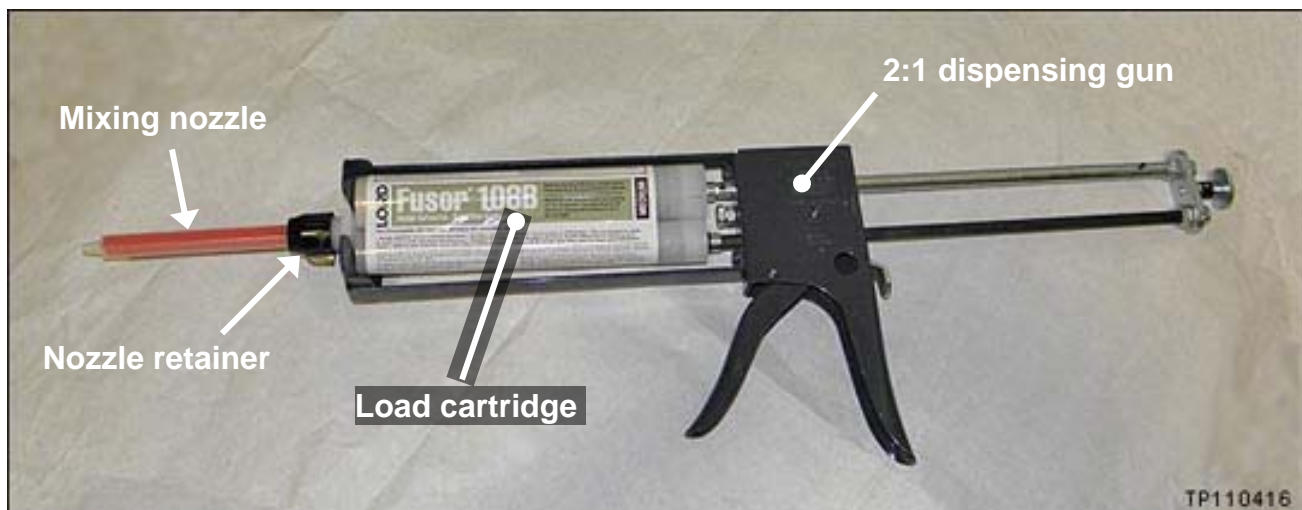

Figure RB21
25. Prepare for application of LORD Fusor® 108B structural adhesive (see Figure RB21 and RB22).
- Make sure the nozzle retainer is installed (see Figure RB21).